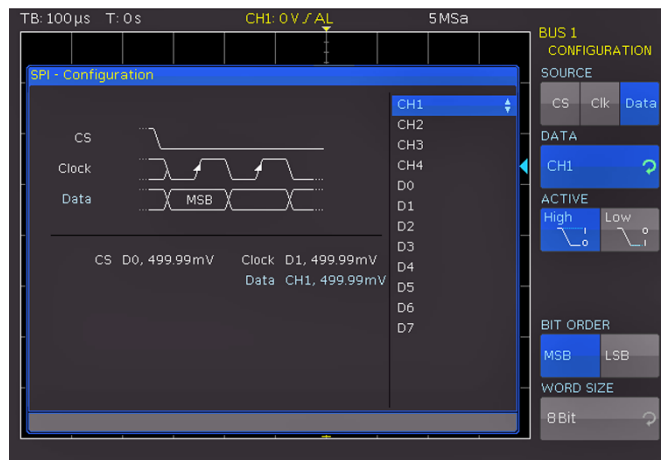

Fig. 12.13: Menu for the definition of a SPI BUS
Use the top soft menu key SOURCE to select the respective channel for chip select (CS), clock (Clk) and data. Select the respective soft menu key CS, Clk or Data (key will be highlighted in blue) and then use the soft menu key DATA and the universal knob to select the respective source channel. For the 2-wire SPI, select the possible TIME OUT instead of a chip select source. During the time out, data and clock line are at Low. When the time out has been reached, a new frame begins. If the time intervals between the data packets are shorter than the time out, these packets belong to the same frame. You can select the dead time via universal knob or via numeric input (KEYPAD button). A small window provides information about the current settings (see fig. 12.13).